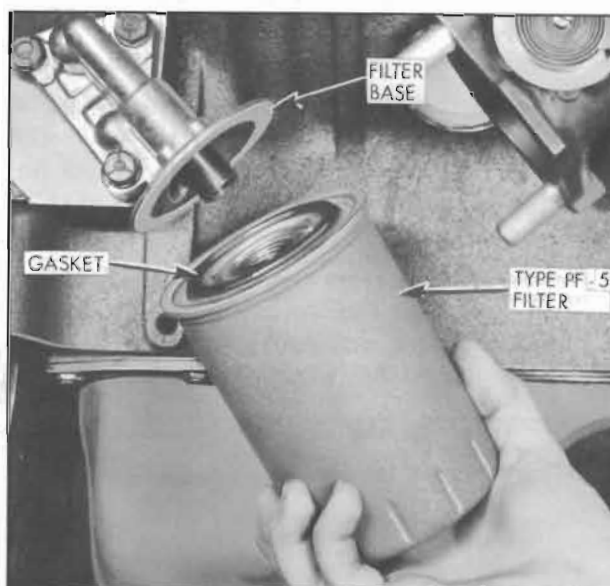

Figure 1-1—Oil Filter Installation
Lubricate gasket and screw filter on stud till gasket just touches base; tighten filter $\frac{2}{3}$ turn more. Start engine. Do not accelerate engine beyond normal idle until oil pressure is indicated. Check filter area for leaks after engine has run for five (5) minutes. See Figure 1-1.